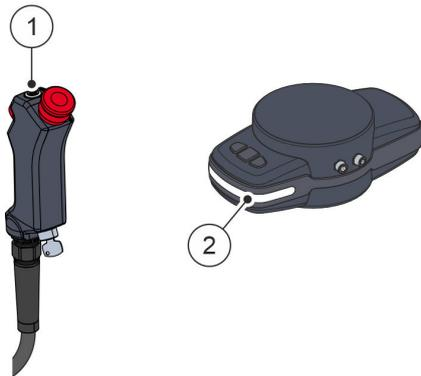

Fig. 57 Switching on the robot
29. Press the on/off button Fig. 57 / (1) on the handheld controller for about one second to switch on the robot.
- ▶ ▪ The outer ring of the on/off button lights up **green** Fig. 57 / (1).
- The status LED on the media flange initially flashes **white** and then lights up **white** continuously once the boot process is complete Fig. 57 / (2).